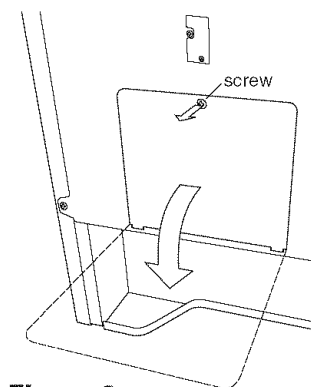

Figure 6
Loosen screw on rear access cover and pull down as illustrated in Figure 6 to access terminal block wiring connection.
- 5 Make sure all screws are tightened securely and replace the rear access cover and secure with screw. See Figure 6.
- 4 Make sure all connections are tightened securely and replace the rear access cover and secure with screw. See Figure 6.
- 5 Make sure all connections are tightened securely and replace the rear access cover and secure with screw. See Figure 6.